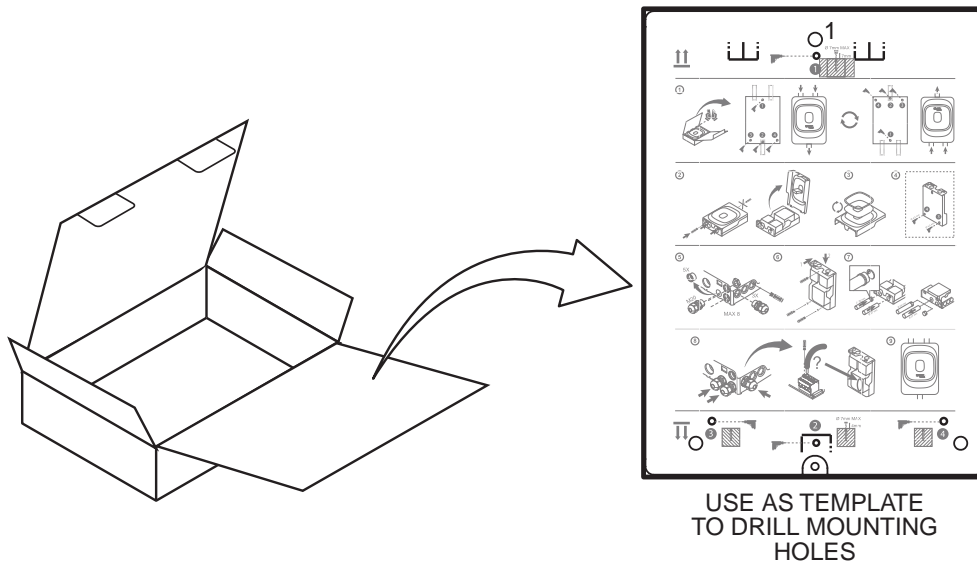

Figure 7-9: Mounting Template
1. The cover of the box FAAST FLEX, a template for the mounting holes is provided (see Figure 7-9).